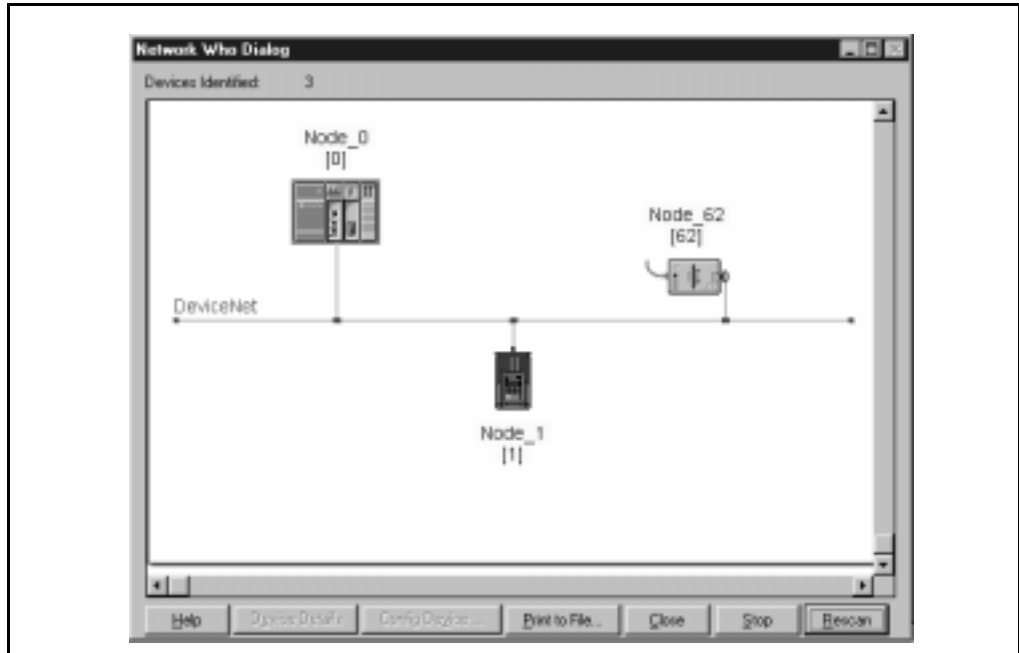

Figure 4.2 – Network Who Window
Step 5. Click **Close** to close the 1747-SDN dialog box. A message box appears and prompts you to save the configuration to a file. If desired, save to a file. The Network Who window (see figure 4.2) appears.